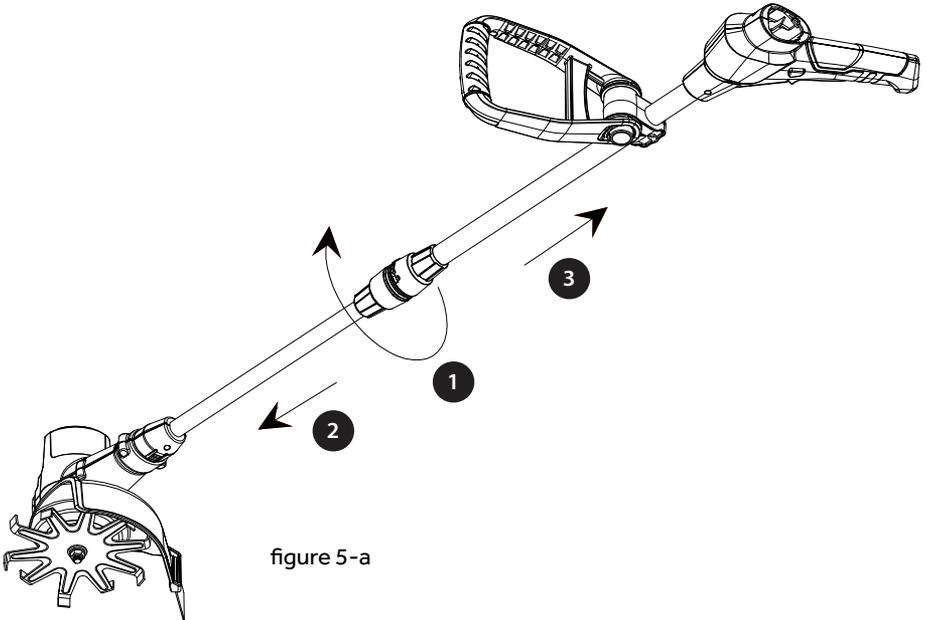

figure 5-a
5. ADJUST THE LENGTH OF THE WEEDER (fig.5-a)